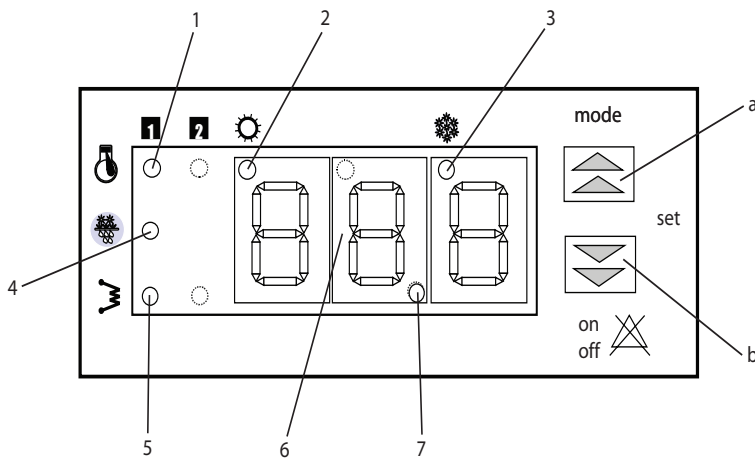

Fig 12 - Heat Pump Control Panel
2. Press the On/Off button 'b' (Fig 12) for approximately one second and the Heat Pump will start. The circulating pumps will start and the current water return temperature will be indicated in °C.
3. If the compressor light (Fig 12, item 1) flashes during the start procedure the compressor is starting but a safety lock-out delay is in progress.
4. Press and hold buttons 'a' and 'b' (Fig 12) momentarily and 'set' will show on the control panel display.
**IMPORTANT:** Always use button 'b' (Fig 12) to switch the unit on and off. Note: Leave power on to the unit for approximately 2 minutes to ensure that the hydraulic pump has stopped before isolating the unit. If the compressor is on (LED will be lit) when the unit is powered off the circulating pump needs to run for a short period.
22. Press and hold button 'b' (Fig 12) to switch the unit off. After approximately 2 minutes isolate the Heat Pump to power down.
2. Switch on both isolators to the Heat Pump and the 5kW Electrical Heater. Press and hold button 'b' (Fig 12) to switch on the Heat Pump. The compressor starts and the pumps will run.